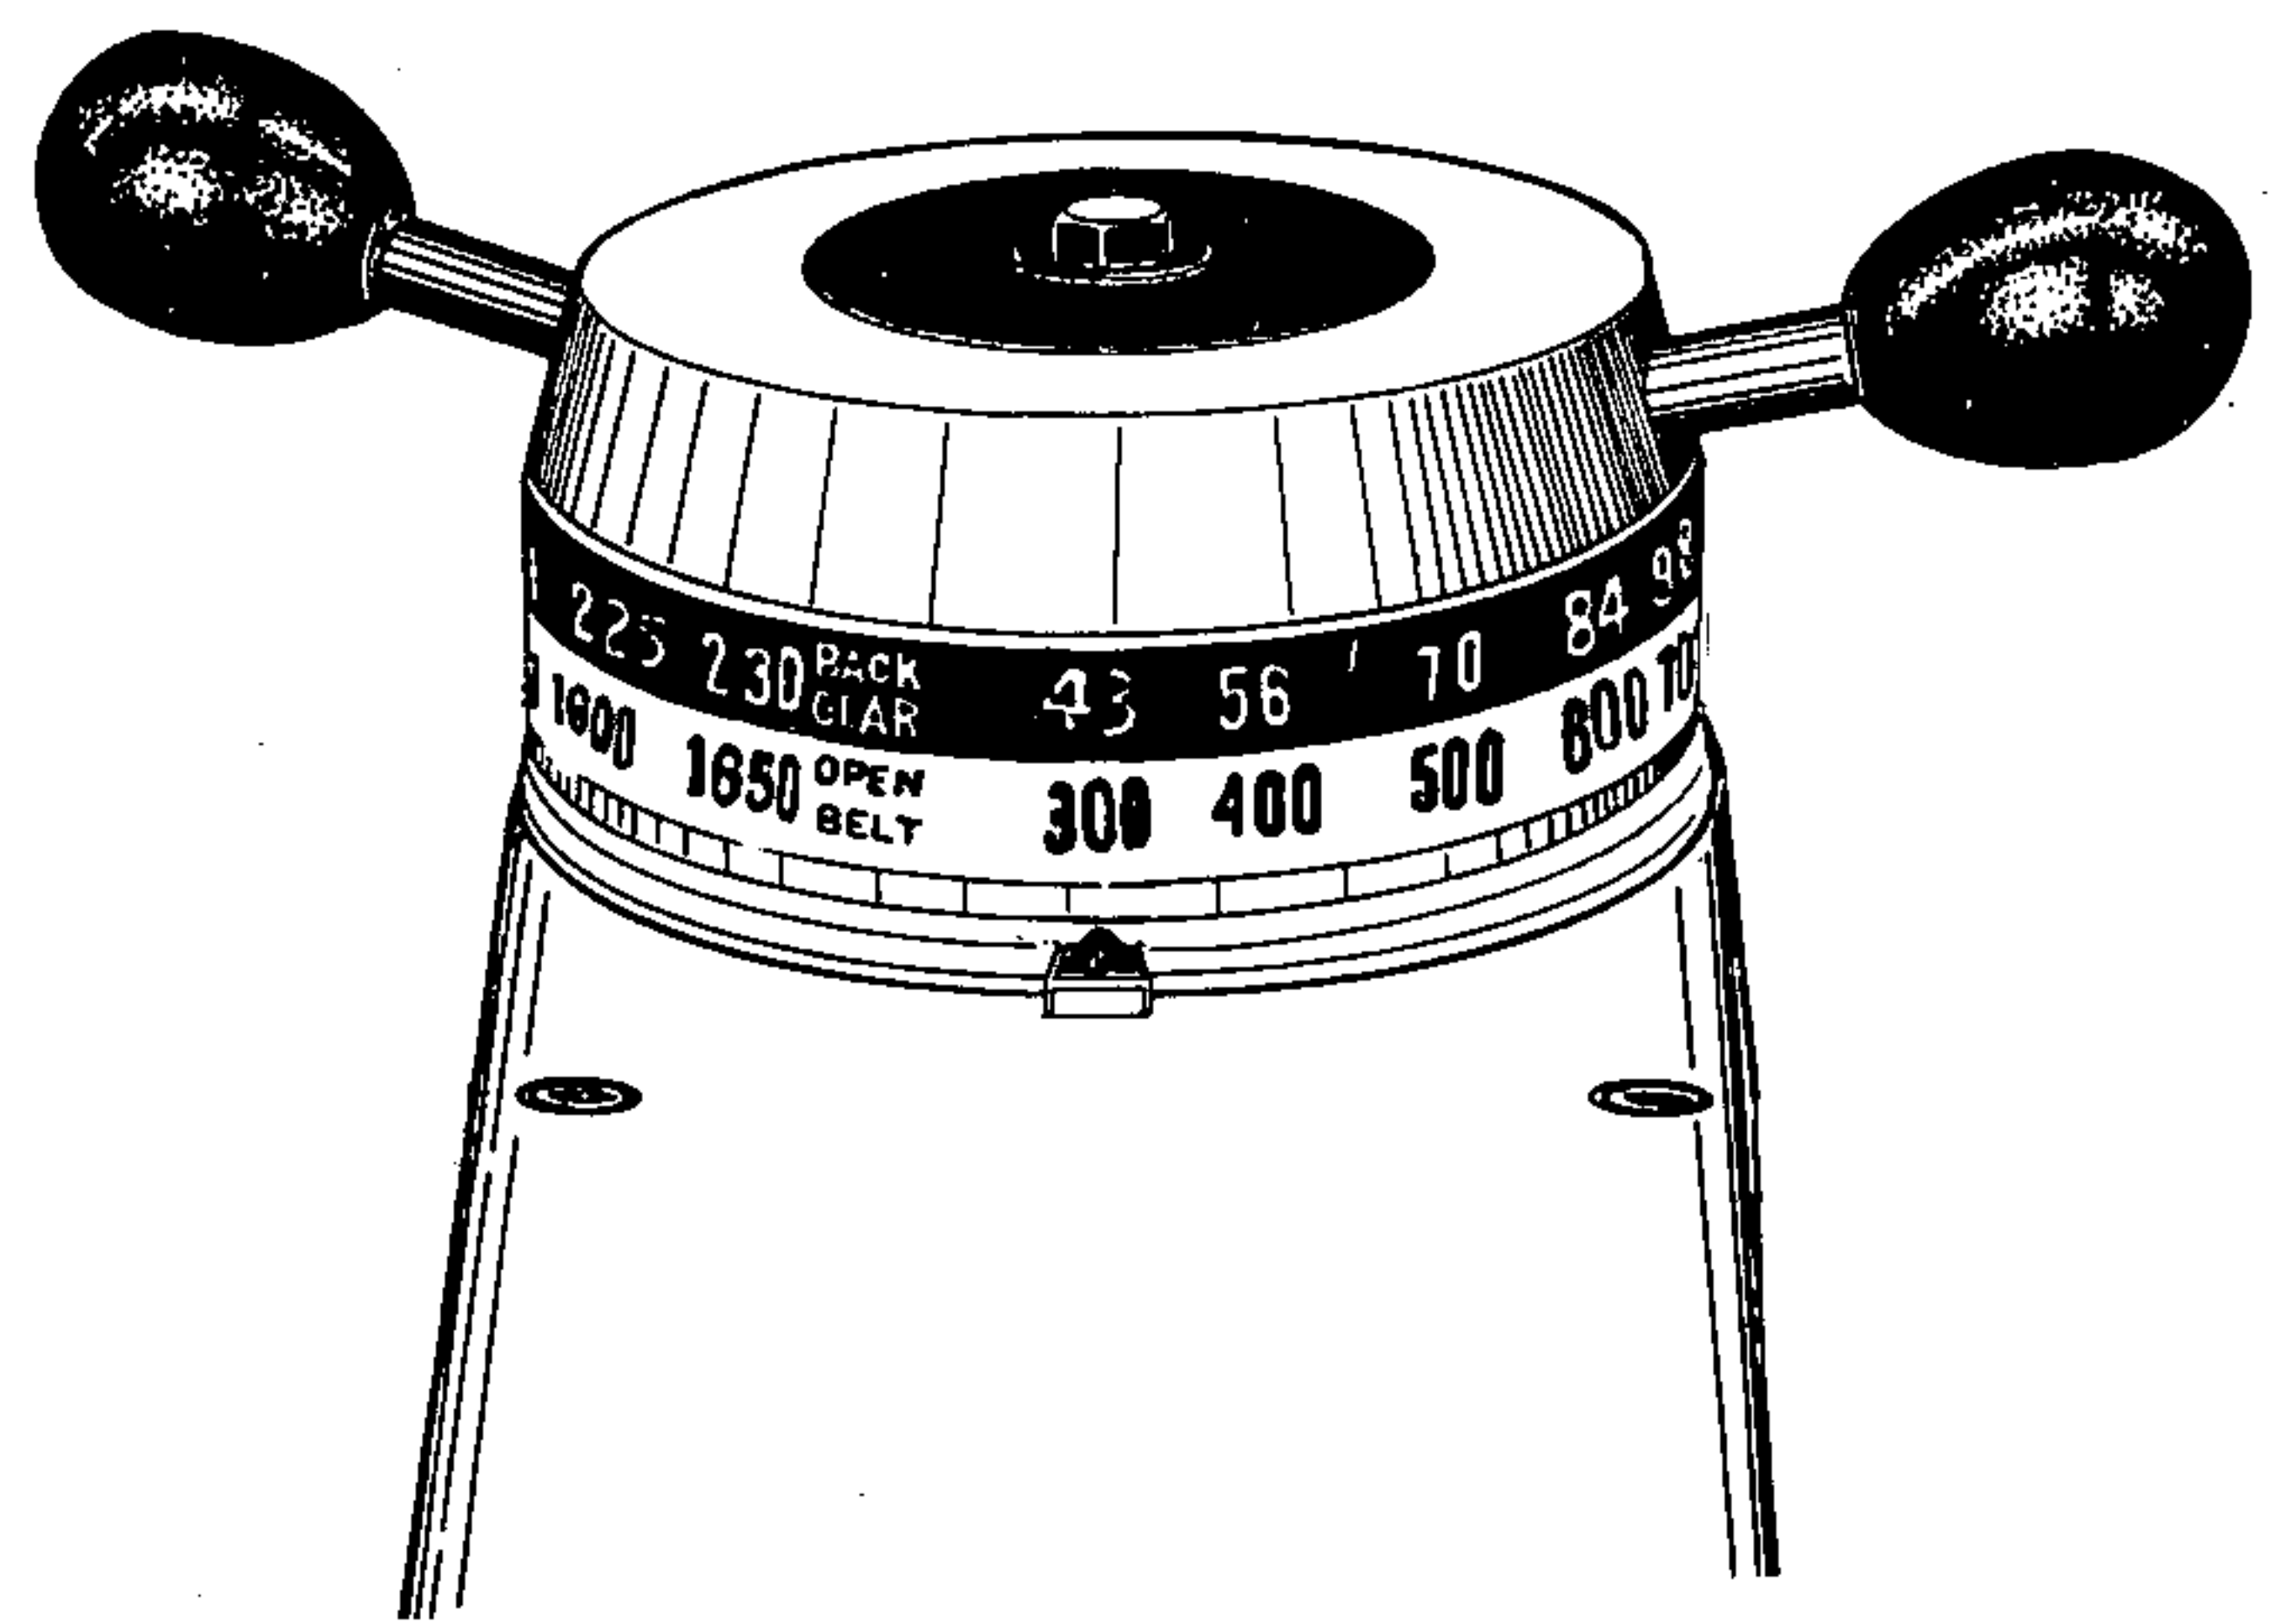

Figure 6
1. Start the motor -- turn variable speed control to 300 rpm (43 rpm if lathe is in back gear) -- refer to figure 6.